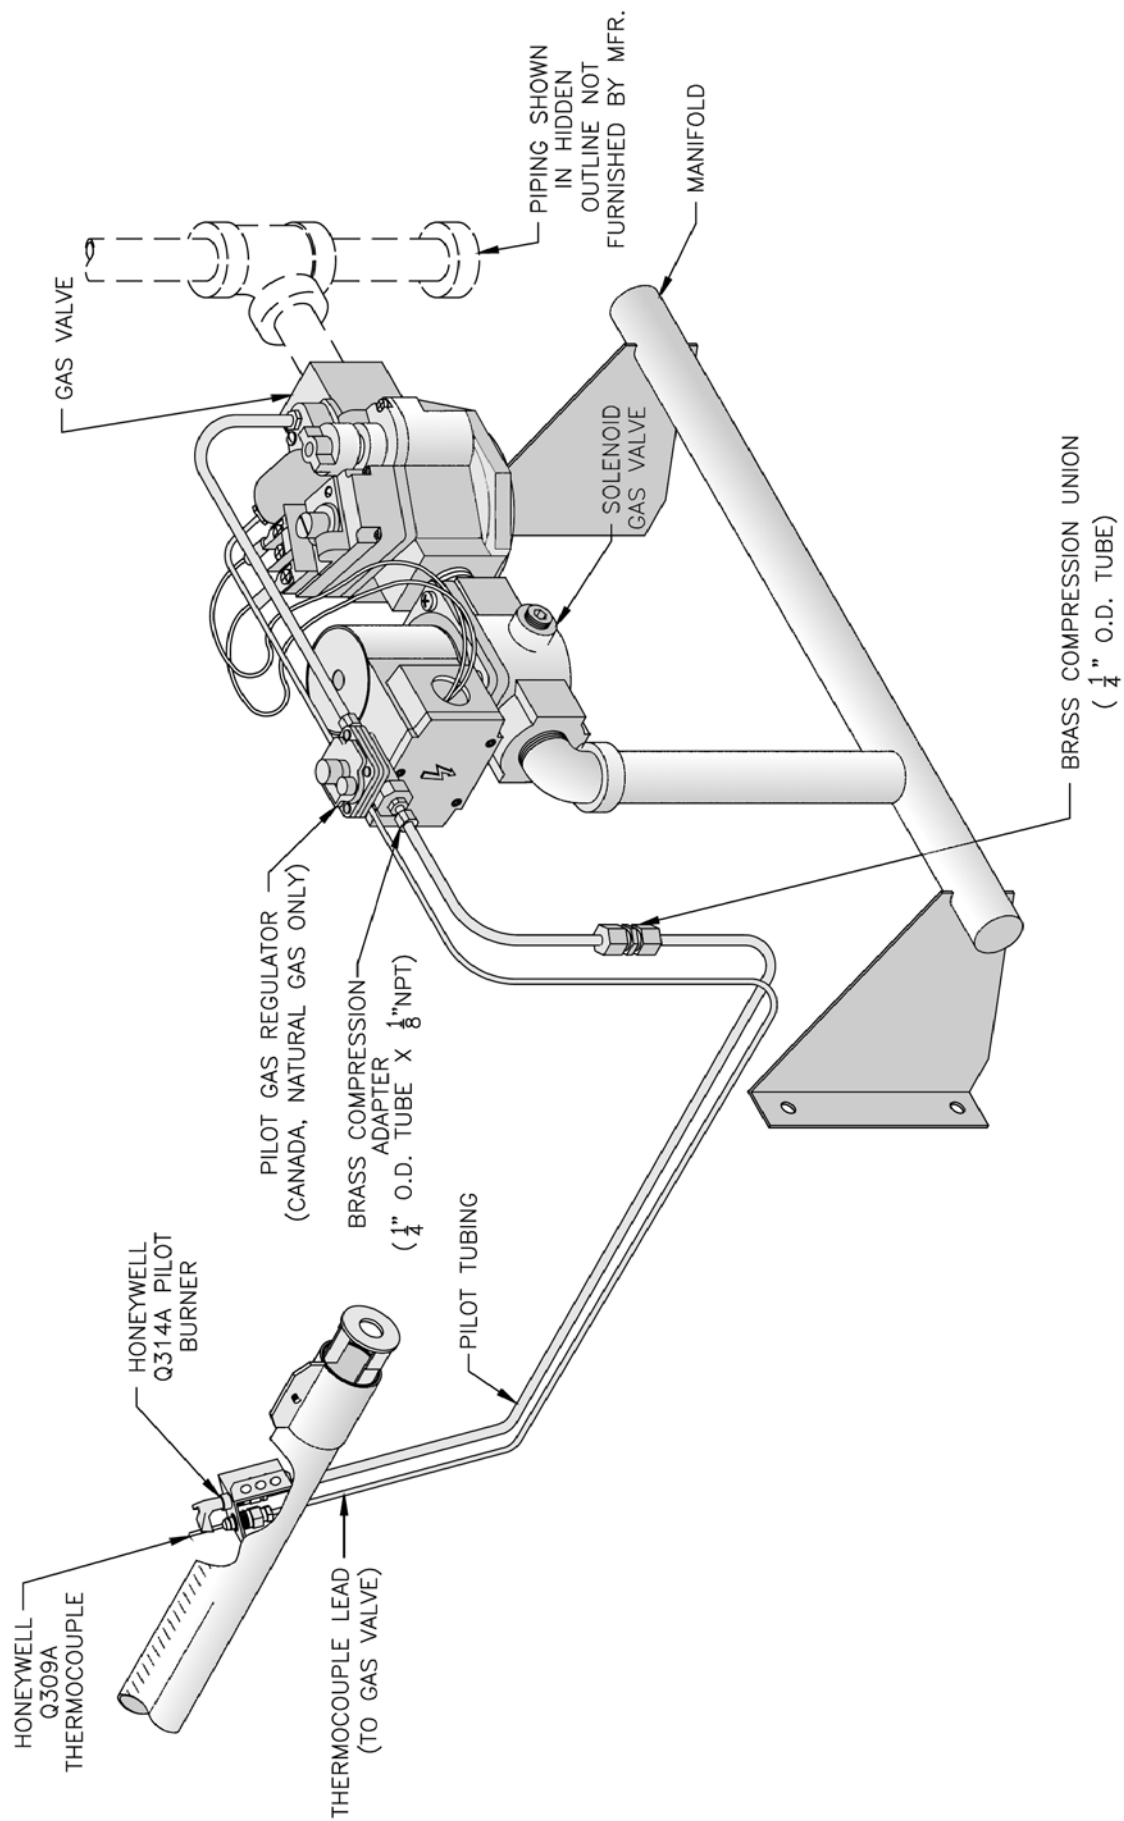

Figure 10: Schematic Gas Piping, 24V Standing Pilot, 806H & 807H
1. Install Gas Control Assembly on Manifold. See Figure 10. Use thread (joint) compound (pipe dope) resistant to action of liquefied petroleum gas.
2. Install pilot burner piping and controls. See Figure 10.